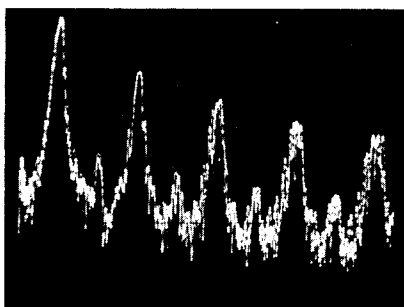

Figure 5-4. VCO Distortion Adjustment
- 10.2 Adjust A15R39 for min 2nd harmonic (Figure 5-4). Verify level is 35 dB below fundamental or lower.